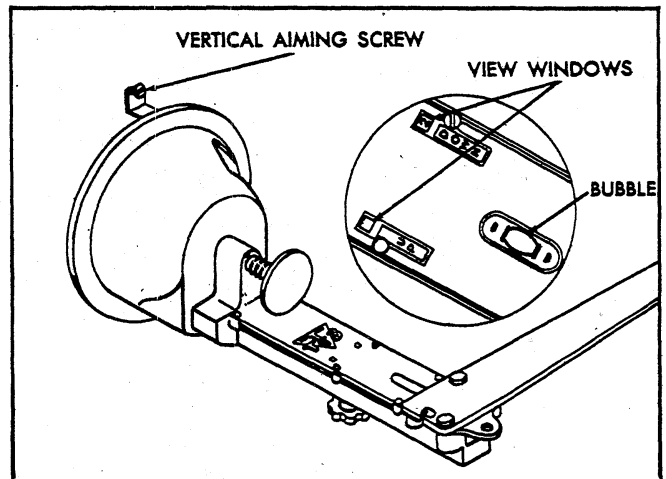

Fig. 7 - Selecting Level Aiming Area
3. Loosen the slider knob beneath the aimer arm and set the numeral "2" in the DOWN view window (fig. 7). Back vertical lamp adjustment out on each lamp until bubble is outside of black line of vial, then center bubble in between black line of vial by turning clockwise.